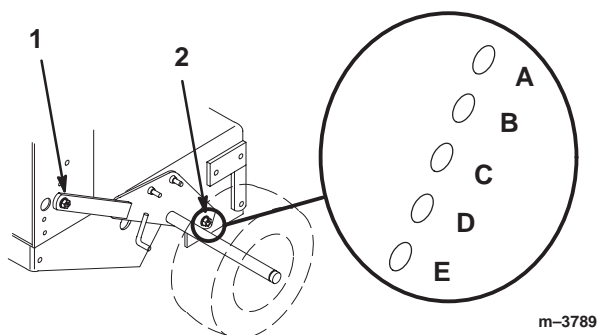

Figure 16
3. Loosen, but do not remove, the 2 axle pivot bolts and the 2 axle adjustment bolts (Fig. 16).
4. Place a jack under the rear center of the engine frame. Raise the back end of the engine frame up enough to remove the front 2 axle adjustment bolts (Fig. 16).
5. Raise or lower the engine frame with the jack so that you can install the front 2 axle adjustment bolts in the desired hole location (Fig. 16).